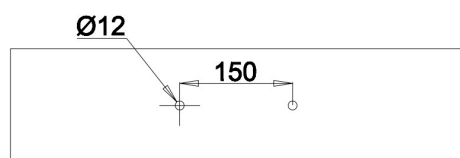
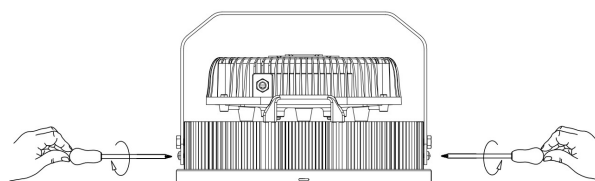

FIG.18
FIG.19
- 1) Drill two holes on the ceiling, diameter 12mm, 150mm distance, dismount the U shape bracket with screwdriver and wrench. (See FIG.18 and FIG.19)